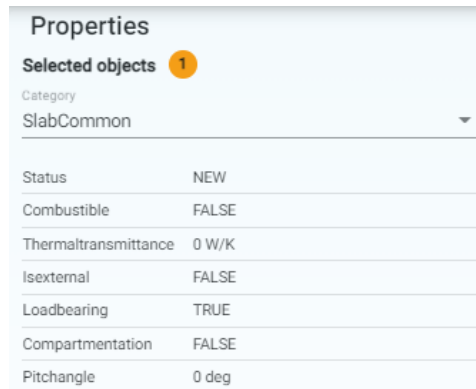

Figure 8: Property tab in the SCIA AutoConverter
5. Property tab Property tab (Figure 8) is shown when the structural or analytical object is selected in the 3D scene. The property tab can be resized by clicking and dragging on the edge approximately in the centre when active. In the property bar, you can inspect attributes and properties of selected objects in 3D scene. Properties are divided into categories based IFC property sets (for example property set WallCommon, SlabCommon etc. for structural objects, property sets for analysis elements are based on SAF format, more you can find on saf.guide).